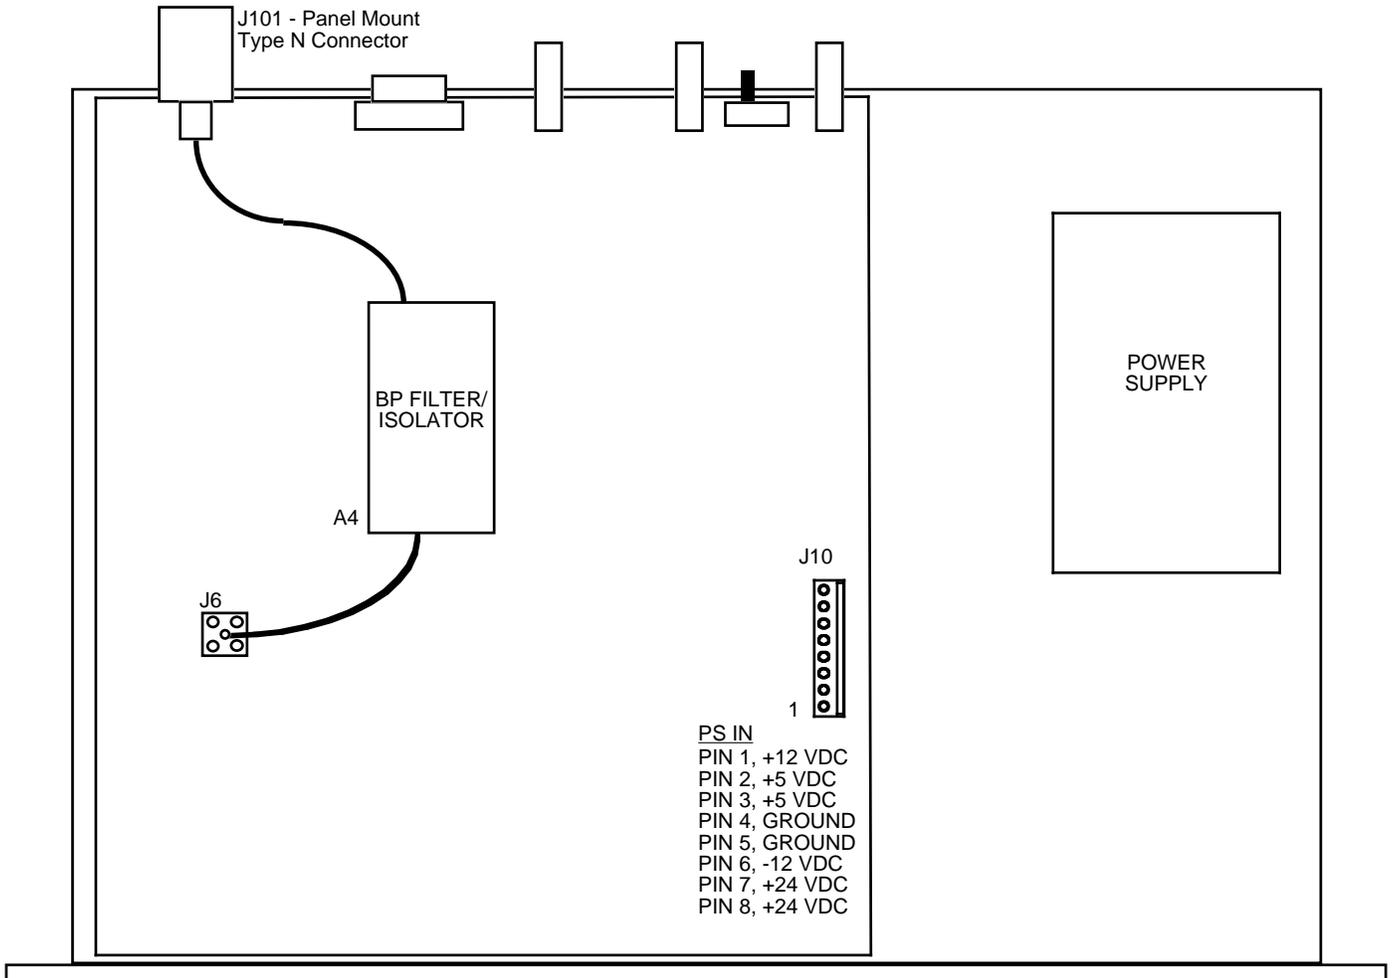

FIGURE 2.0 2116-72 Mechanical Assembly
2.1 Mechanical - The 2116-72 consists of one RF PCB housed in a 1 RU (1 3/4 inch high) by 12 inch deep chassis. A switching, ± 12 , $+24$, $+5$ VDC power supply provides power for the assemblies. The 2116-72 can be secured to a rack using the 4 holes on the front panel. Figure 2.0 shows how the 2116-72 is assembled.